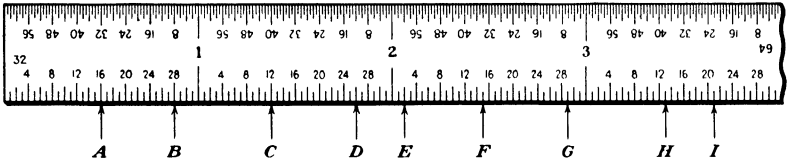

Fig. 3.
4. See how quickly you can name each of the graduations indicated by letters *A, B, C*, etc., in Fig. 3.